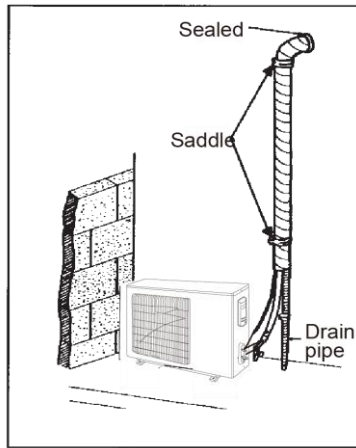

Fig. 4.16
- (1). If the outdoor unit is installed lower than the indoor unit (See Fig. 4.16)